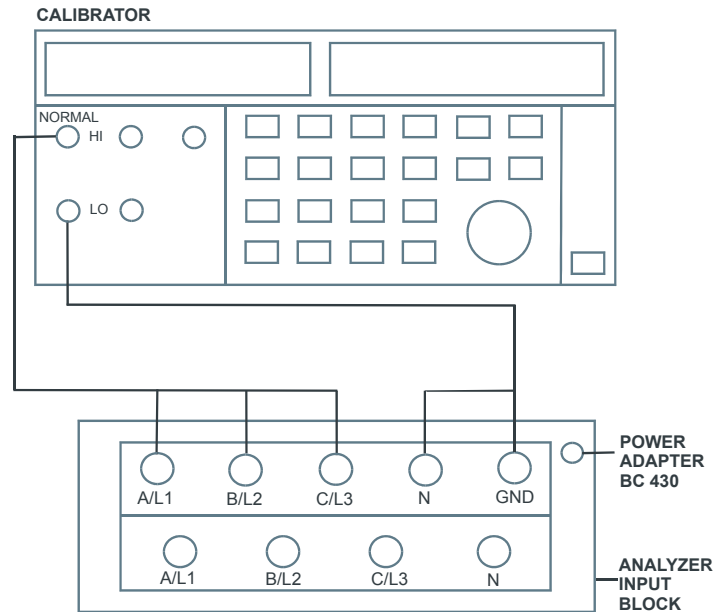

Figure 4-3. Checking the A/L1, B/L2, and C/L3 voltage inputs
1. To check the A/L1, B/L2, C/L3 inputs, connect the N input to Ground (See Figure 4-3). N now will give zero reading.
2. To check the A/L1, B/L2, C/L3 inputs: connect the N input to Ground (See Figure 4-3).